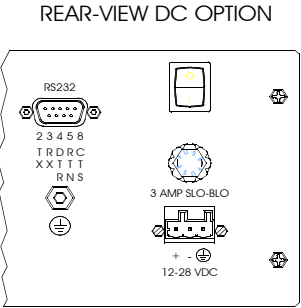

Figure C-2: Model GF868 Rack Mount Enclosure — Wiring Diagram
- a. Purchase or prepare a suitable serial cable. This cable should have a standard female DB9 connector, wired as shown in Figure C-2 on page C-4, for connection to the rear panel of the Model GF868. The other end should be as required for the external device.
5. Wire any installed *option cards* using the same procedures described in Chapter 1, *Installation*, of this manual and the pin # assignments shown in Figure C-2 on page C-4.